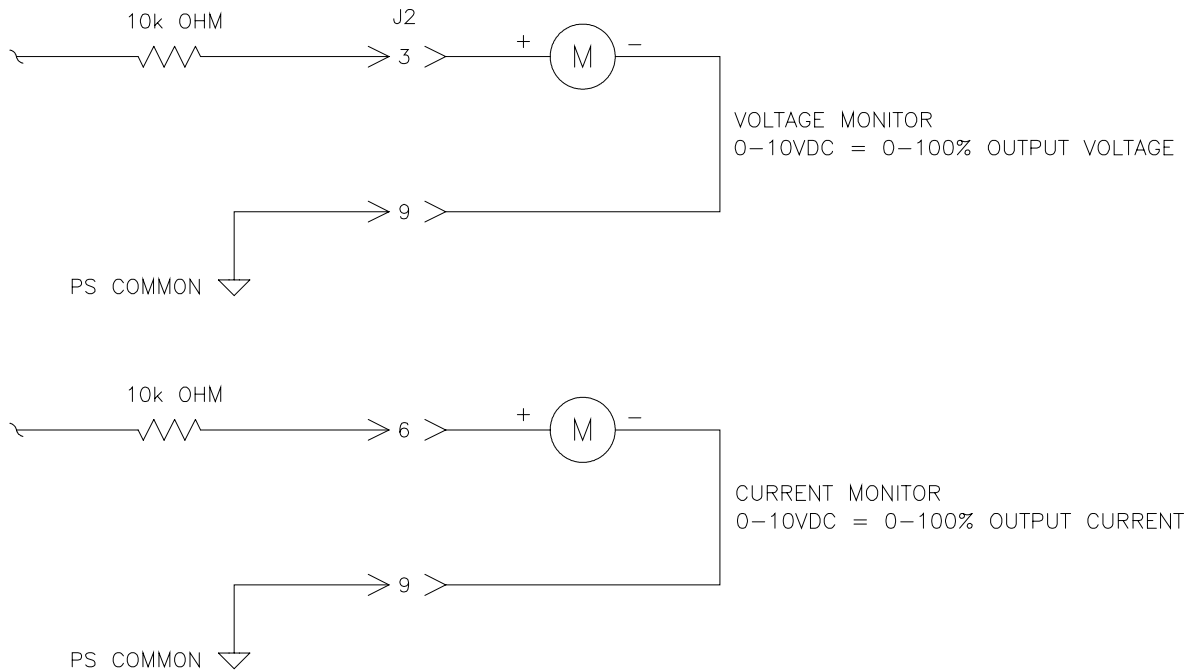

Figure 3.3 Remote Monitoring
Remote Monitoring: Test points are made available for monitoring the voltage and current output. The test points are always positive regardless of the output polarity, where zero (0) to 10 (10) volts equals 0-100% of output. See Figure 3.3 for test point wiring.